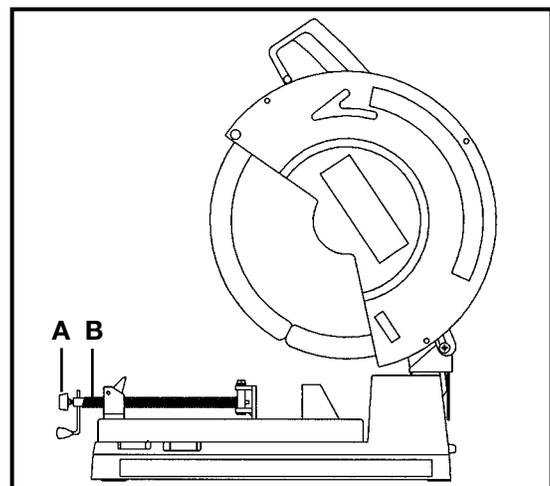

Fig. 22
Thread wing screw (A), into end of vise screw (B), as shown in Fig. 22.